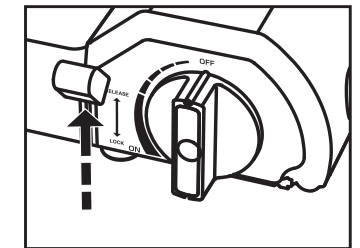

Fig 10
- Lift up the lock lever knob to RELEASE position to disengage the fuel cartridge from governor (Fig. 10).